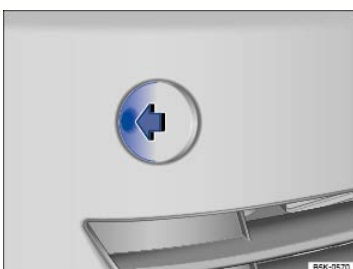

Fig. 170 In the right front bumper: Removing the cover.
- Push on the left side of the cover ⇒ Fig. 170 (arrow) so that it pops out.